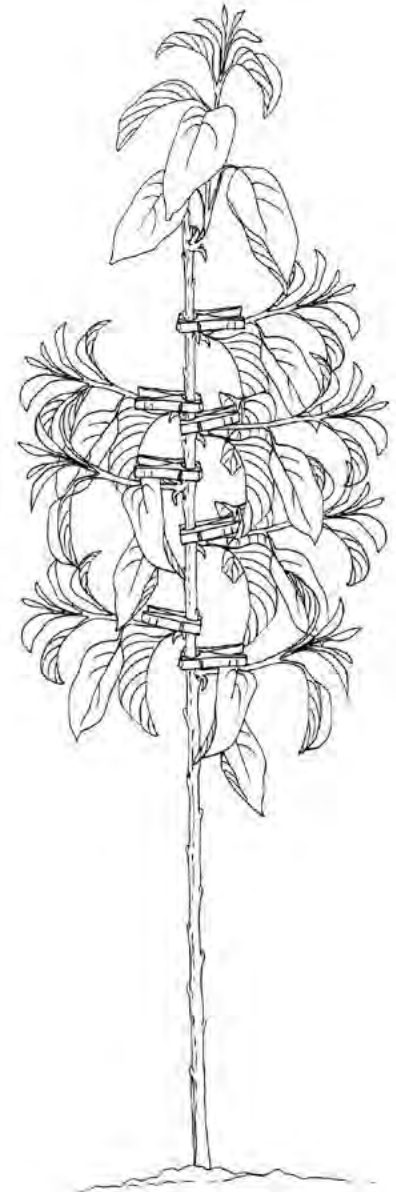

Figure 24
- When developing lateral shoots are 3–4 inches long, establish wide angles with toothpicks or clothespins (Figure 24).